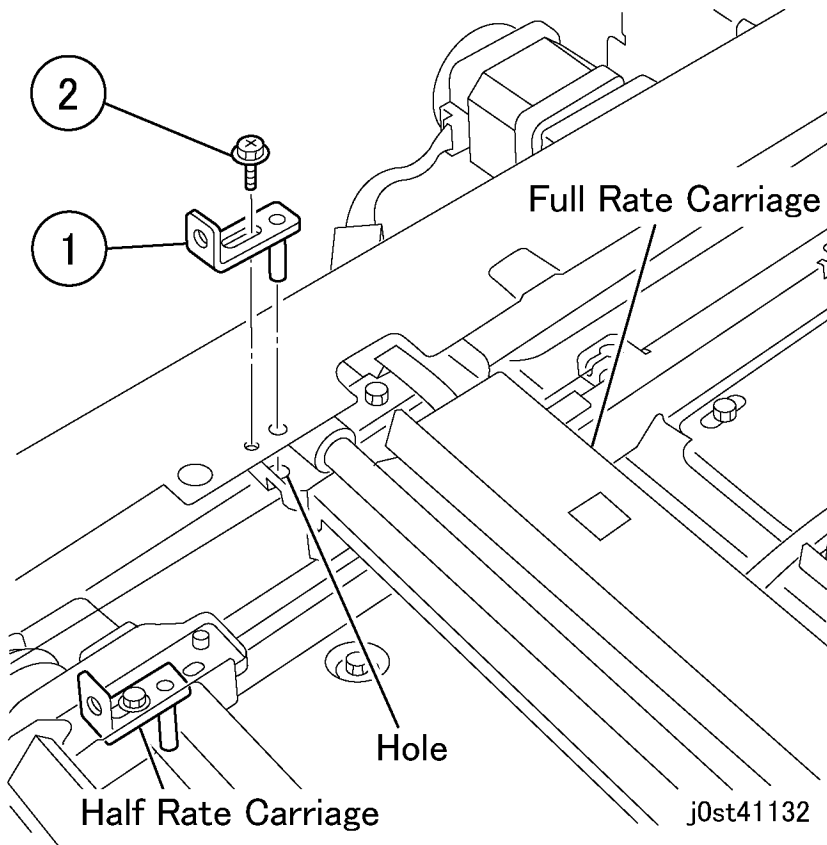

Figure 6 Position Adjustment of Full Rate Carriage 1/2 (j0st41132)
7. Fix the tool to the tool hole on the frame and check the tool holes of the frame and the Full Rate Carriage. (Figure 6)